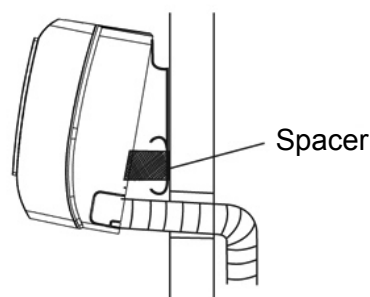

Fig. 13
- D. Keep the unit away from the wall to prevent the line set from being kinked or crushed, use a piece of styrofoam as a spacer between the back of the unit and the wall. (Fig. 13)